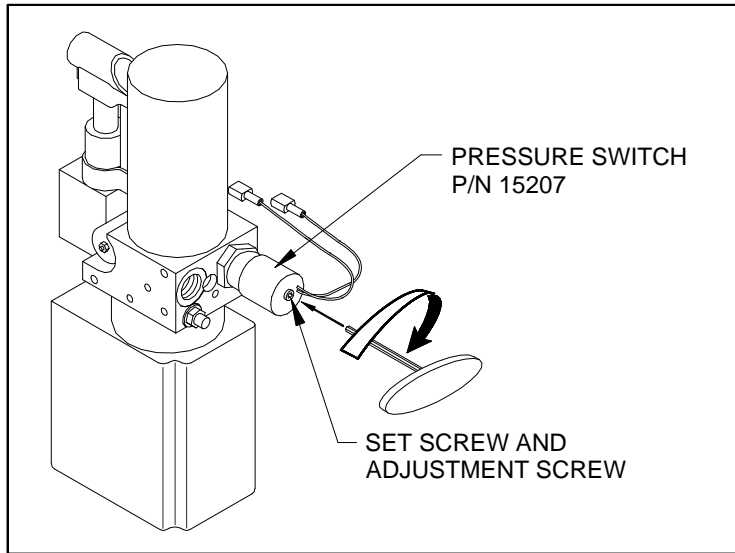

FIGURE 2-21: HYDRAULIC PUMP WITH PRESSURE SWITCH
- c. Refer to **Figure 2-21**. Remove the 1/4-20 x 1.00" locking set screw (with hex recess) from end of pressure switch to gain access to adjustment screw. Save screw for reinstallation.